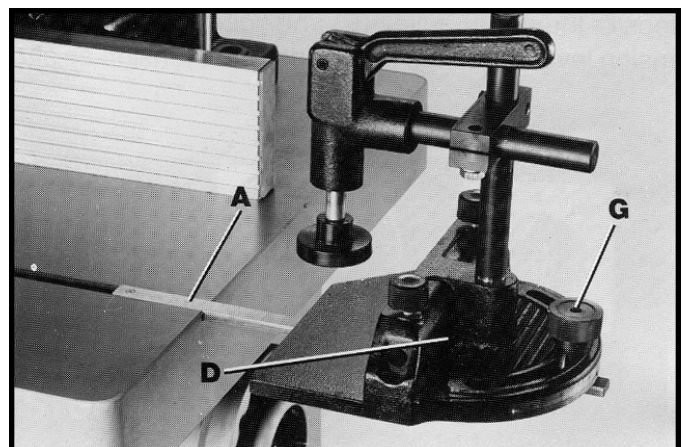

Fig. 47
3. **NOTE:** The miter gage is adjustable from 90 degrees to 40 degrees right and left. To rotate the miter gage, loosen lock knob (G) Fig. 47, and move the miter gage body to the desired angle.
4. The T-slotted miter gage bar (A) Fig. 47, and table prevents the miter gage from falling when it is extended out beyond the table surface as shown.